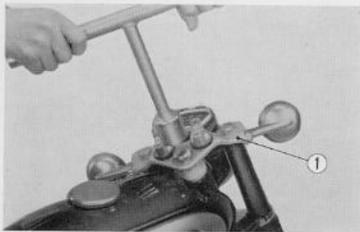

Fig. 4.19 Removing fork top bridge plate
1. Disassemble the handle and the top bridge plate ① in accordance with 4.1.B. (Fig. 4.19)